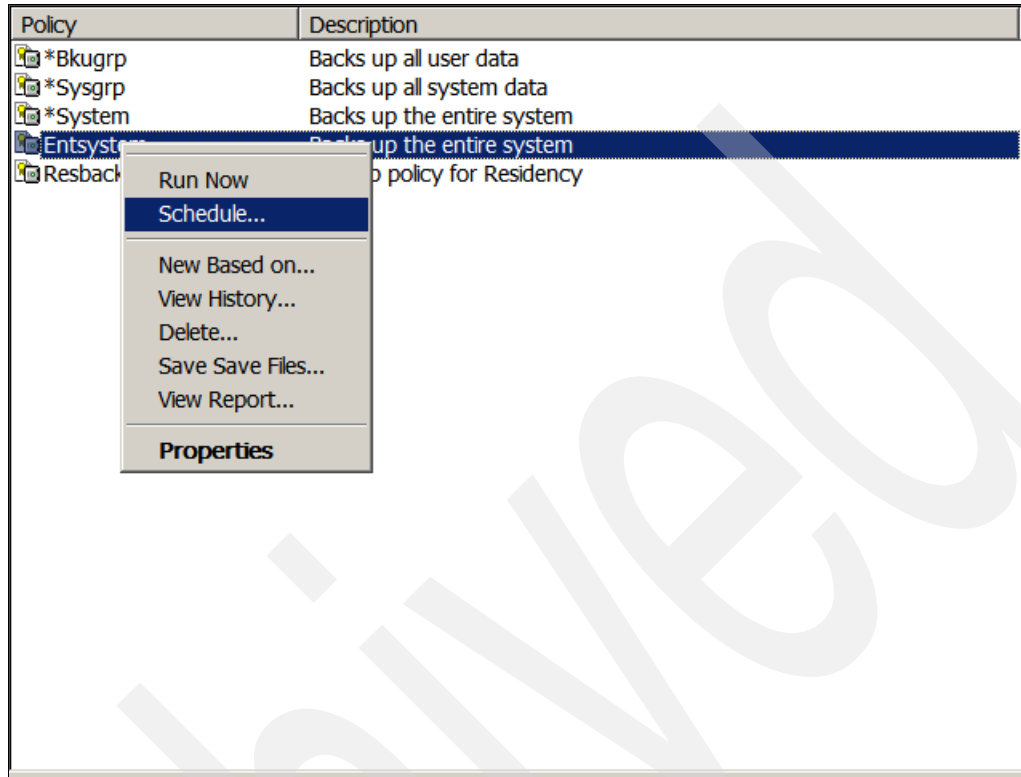

Figure 6-50 Schedule save of entire system
6. After the backup policy is created, you schedule it by right-clicking the newly created policy and selecting **Schedule** from the pull-down that pops up. This is shown in Figure 6-50.